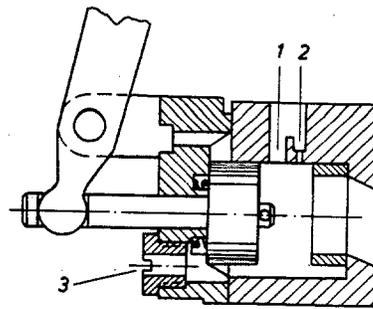

Fig. M 31/02
When the starting system is cut in (starter knob pulled all the way out), the starter plunger releases two ports, a larger one (1) and a smaller one (2). See Fig. M 31/02.